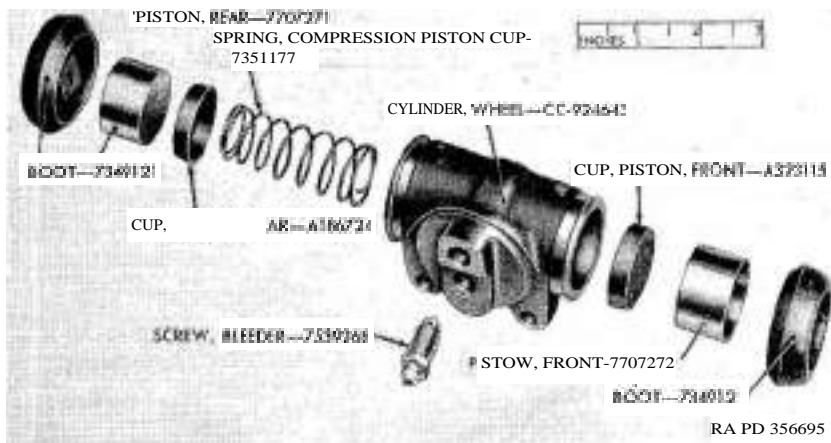

Figure 154. Wheel cylinder—exploded view.
a. Remove Boots from Wheel Cylinders (fig. 154). Remove boots from both ends of the wheel cylinder.
b. Remove Bleeder Screw and All Internal Parts from Wheel Cylinder (fig. 154).
- (1) Remove front piston, rear piston, rear piston cup, front piston cup, and piston cup compression spring from wheel cylinder.
- (2) Remove bleeder screw from wheel cylinder.
a. Inspect Wheel Cylinder and Related Parts (fig. 154).
(1) Inspect wheel cylinder for wear, corrosion, or cracks.
a. General. Absolute cleanliness must be exercised in the assembly of wheel cylinder parts. To insure proper protection of wheel cylinder bores and pistons, coat parts with hydraulic brake fluid (HB) before installation.
b. Install Parts in Wheel Cylinder (fig. 154).
- (1) Place piston cup compression spring in wheel cylinder with large end toward large bore of wheel cylinder.
- (2) Install front piston cup and rear piston cup (flat side out).
- (3) Install front piston and rear piston (flat side in).
- (4) Install a boot at each end of wheel cylinder. Make certain slot in boot is vertical to insure a tight fit on end of brake shoe.
c. Install Bleeder Screw (fig. 154). Install bleeder screw in upper threaded hole of wheel cylinder.